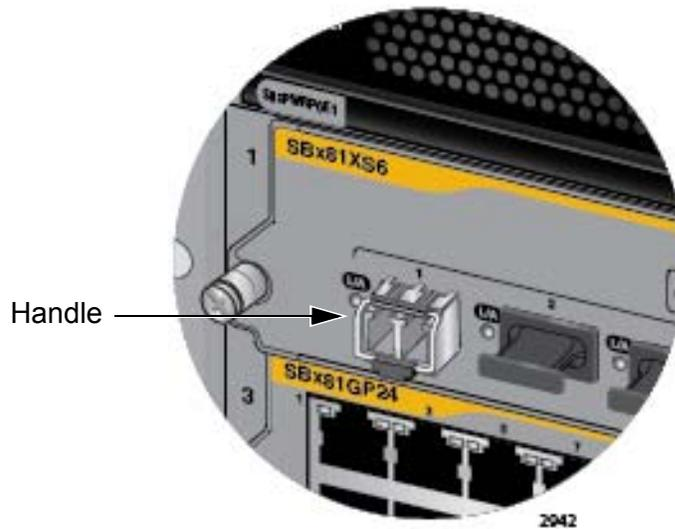

Figure 92. Verifying the Position of the Handle on the SFP+ Transceiver on the AT-SBx81XS6 Line Card
5. Before connecting the cable, verify the position of the handle on the SFP+ transceiver. The handle should be in the up position, as shown in Figure 92.